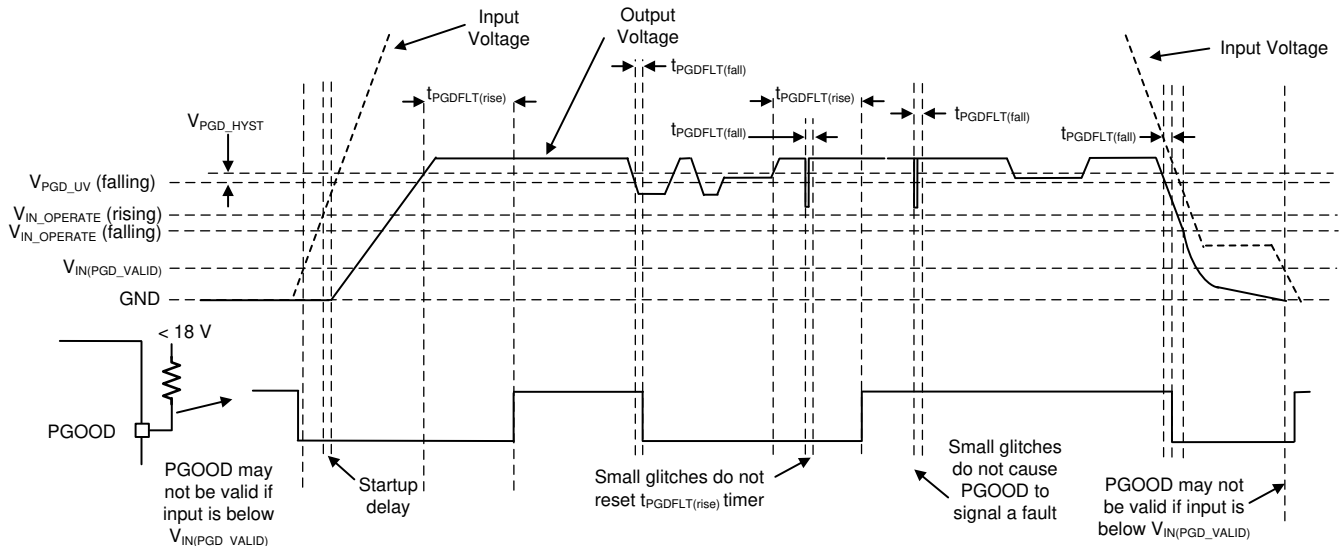

Figure 7-5. PGOOD Timing Diagram (Excludes OV Events)
The PGOOD function is implemented to replace a discrete reset device, reducing BOM count and cost. The PGOOD voltage goes low when the feedback (FB) voltage is outside of the specified PGOOD thresholds (see Figure 6-8). This can occur during current limit and thermal shutdown, as well as when disabled and during normal start-up. A glitch filter prevents false flag operation for short excursions of the output voltage, such as during line and load transients. Output voltage excursions that are shorter than $t_{PGDFLT(fall)}$ do not trip the PGOOD flag. Refer to Figure 7-5 to best understand PGOOD operation.